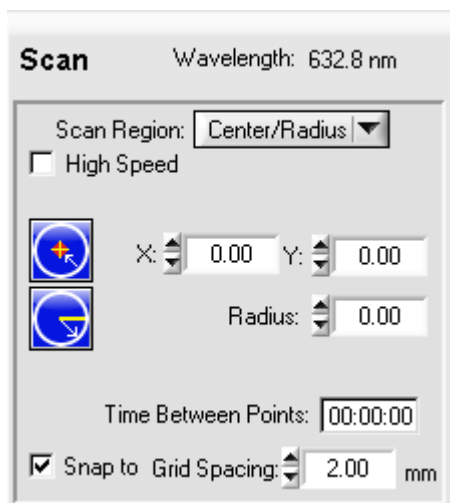

Figure 4.11 Automatic Scan Panel for Center/Radius Scans
1. Select **Center/Radius** from the drop-down menu under **Scan Region**. The scan control now looks like Figure 4.11 below.